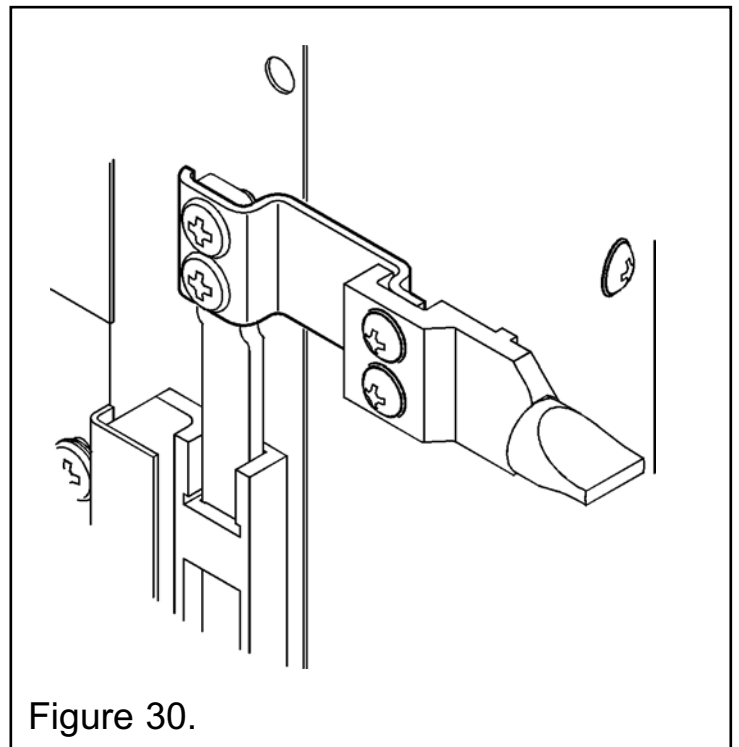

Figure 30.
2. Fit the control knob extension bracket as in figure 30 using the two M4 x 7mm screws supplied.
3. Fit the control knob to the extension bracket using the two screws removed previously (See figure 30).